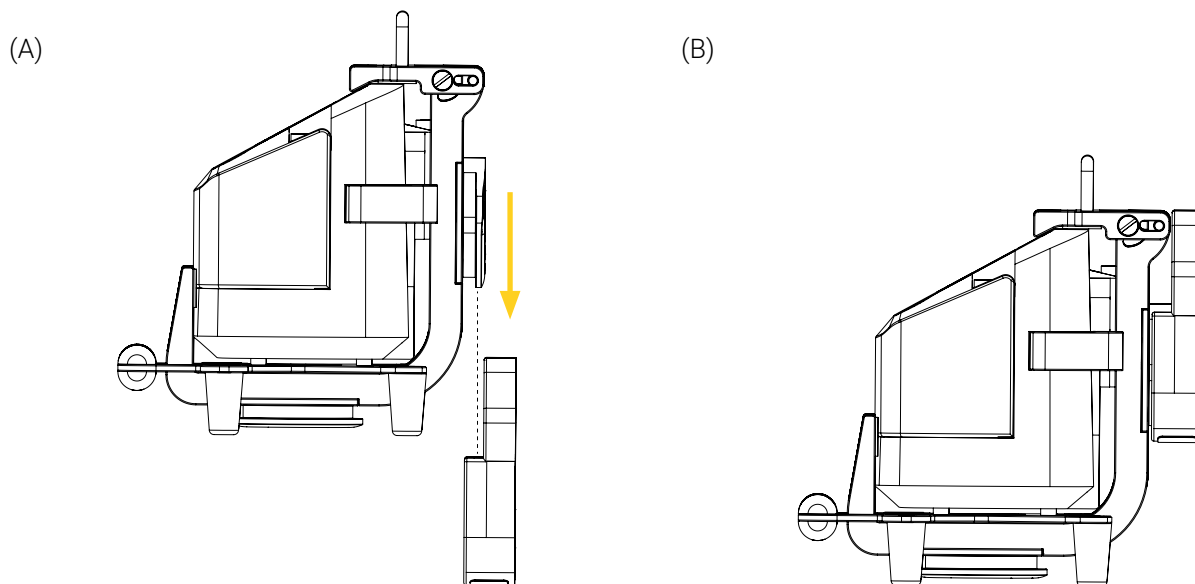
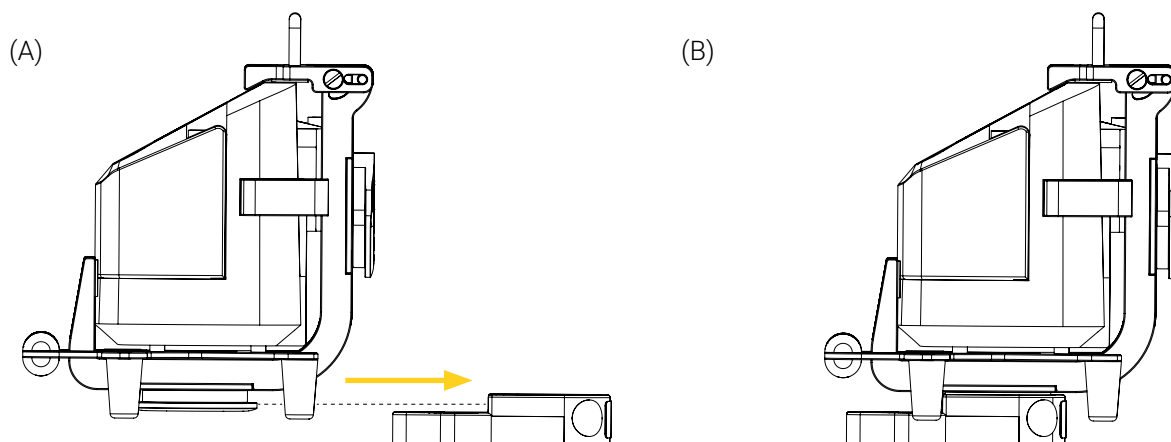

Figure 11: Installing the Bracket Pro Serie 61 – GR vertically in a Micro Base
Figure 12: Installing the Bracket Pro Serie 61 – GR horizontally in a Micro Base
1. Align and insert the anti-rotation micro disc vertically (Figure 11) or micro disc horizontally (Figure 12) in the Micro Base, paying close attention not to wedge the tubing of the medical device.